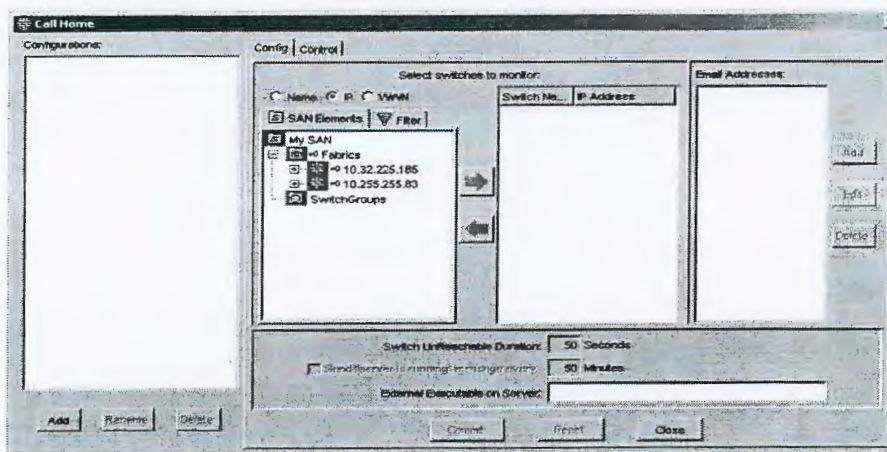

Figure 11-1 Call Home Window
1. From the **Tools** menu, select **Call Home**. The **Call Home** window opens (Figure 11-1).